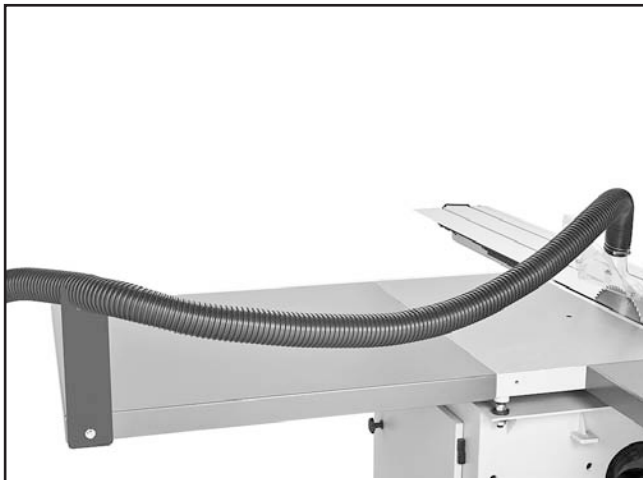

Figure 55. 2½" Dust hose held up by hose support.
3. Run the 2½" dust hose over the hose support, as shown in **Figure 55**.